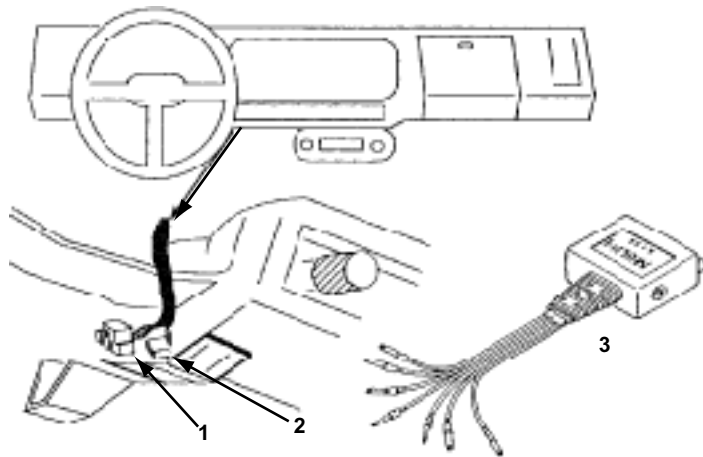

Figure 10-4 1986-87 Trooper connectors and adapter
- Connect the MULTI-1 adapter to the ALDL or diagnostic connector (Figure 10-4 on page 103).